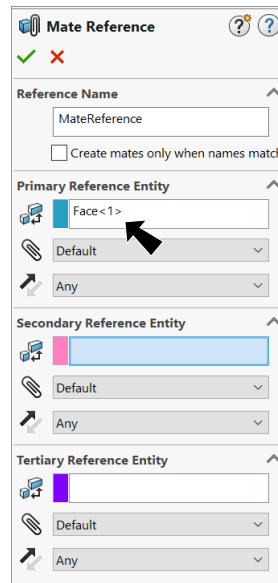

Fig. 12
under Direction 1, **Fig. 12**
under Primary Reference Entity, **Fig. 12**
Step 1. Click part, click **Appearance Callout**  on the context toolbar and click **GEAR 10T** , Fig. 12.